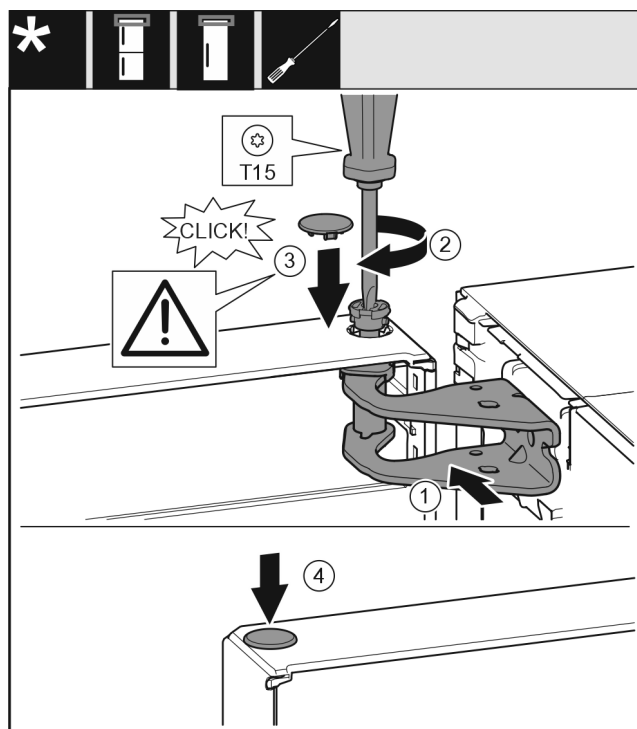

Fig. 20
- ▶ Align the top of the door with opening in the bearing bracket. Fig. 20 (1)
- ▶ Insert the bolt Fig. 20 (2) and use screwdriver to tighten it.
- ▶ Fit the safety cover Fig. 20 (3) to secure the door: Insert the safety cover and check whether the door is resting on it. Otherwise, insert the bolt fully.
- ▶ Insert the plug Fig. 20 (4).